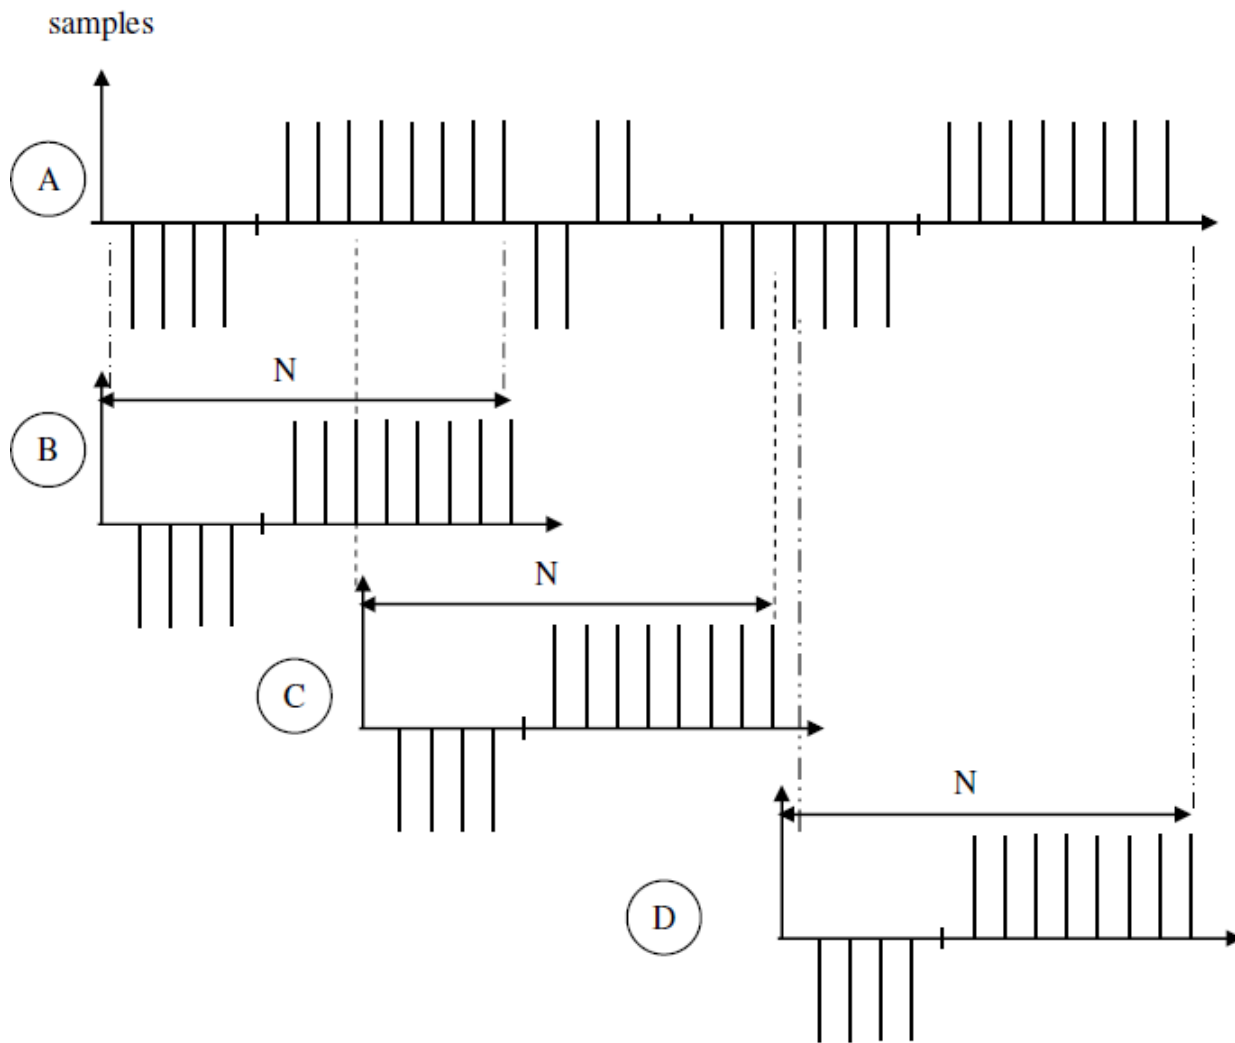

Fig. 8.19: Autocorrelation functioning
- The autocorrelation of  $y(n)$  is computed which will be 0, 1 or -1 as defined by eq (1). The largest peak in autocorrelation is found and the peak value is compared to a fixed threshold.
- If the peak value is below threshold, the segment of  $s(n)$  is classified as unvoiced segment. If the peak value is above threshold, the segment of  $s(n)$  is classified as voiced segment. The functioning of autocorrelation is shown in fig. 8.19.
- As shown in fig. 8.19, A is a sample sequence  $y(n)$ . B is a window of samples of length N and it is compared with the N samples of  $y(n)$ . There is maximum match. As the window is moved further, say to a position C the match reduces. When window is moved further say to a position D, again there is maximum match. Thus, sequence  $y(n)$  is periodic. The period of repetition can be measured by locating the peaks and finding the time gap between them.